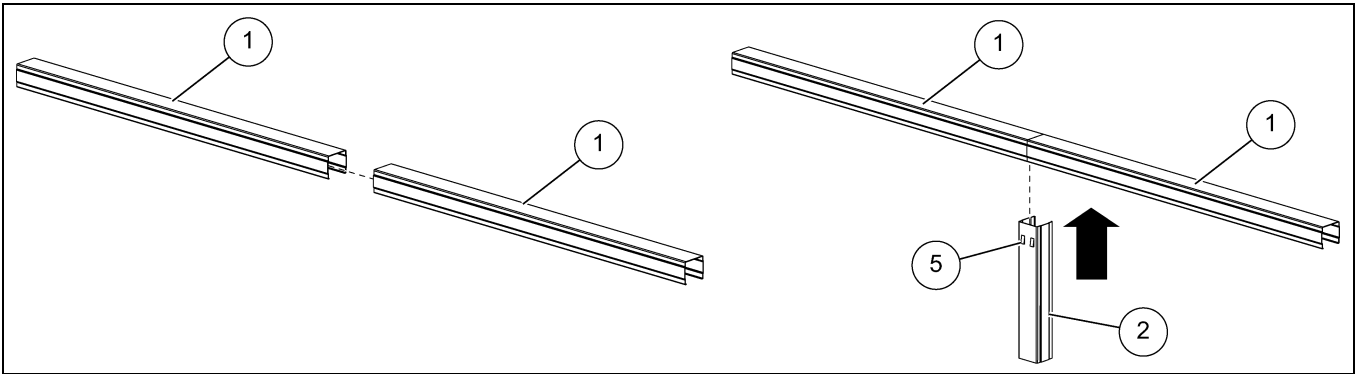

Figure 4F Installing the Monorail Leg
1. Insert the monorail leg (2) vertically at the joint between the ends of the monorails (1), centering the leg (2) on the splice as shown in Figure 4F.